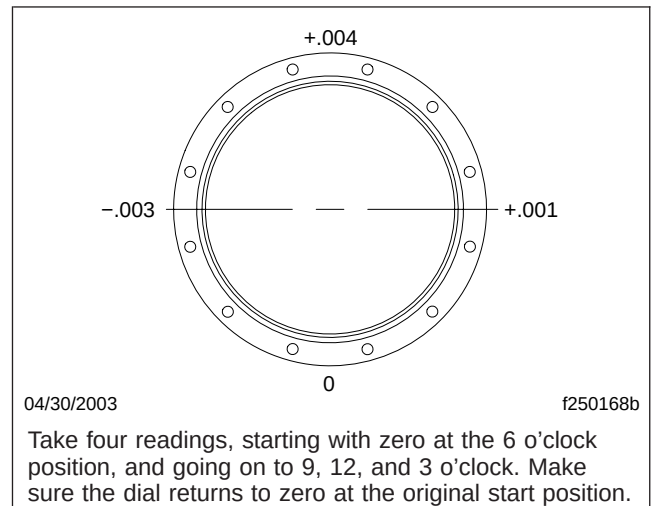

Fig. 2, Calculating the Runout
- 2.3 The total runout will be the difference between the highest plus and lowest minus readings. To calculate the runout, see Fig. 2.